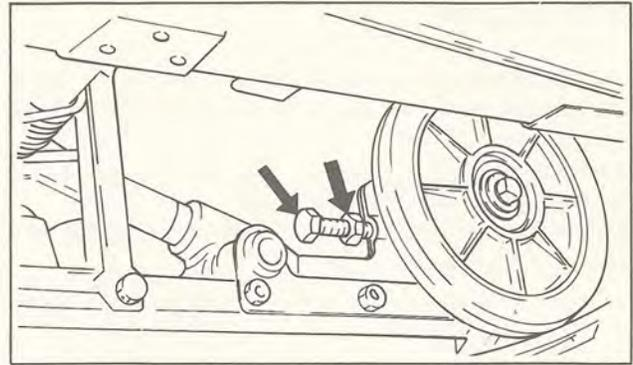

Fig. 3-25
- 5) Loosen the track adjusting screw so the front axle becomes loose. Remove the four bolts mounting the chain housing, and remove the chain housing. (Fig. 3-25,3-26)